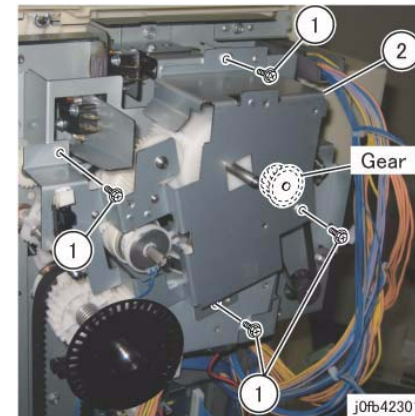

Figure 9 Bracket
12. Remove the screws (x4) and remove the bracket. (Figure 9)